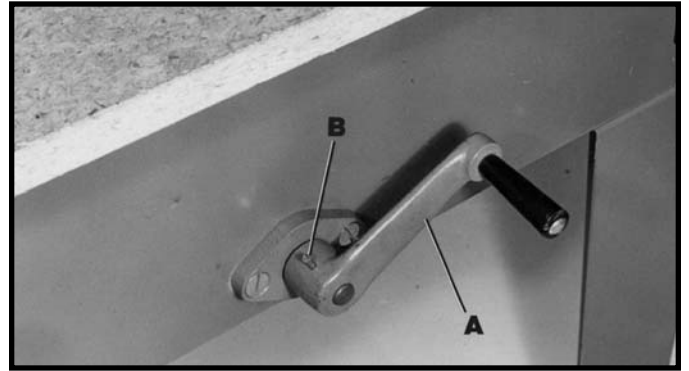

Fig. 6
Assemble elevating crank handle (A) Fig. 6, to rod in front of base using the roll pin (B).